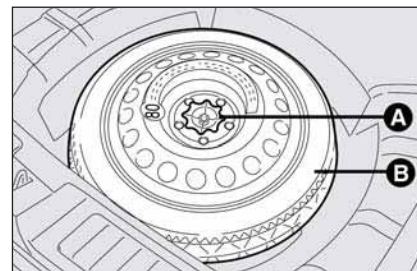
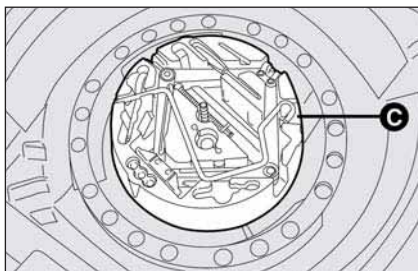

fig. 4
fig. 5
- ☐ Loosen the fastener **A**-**fig. 4**;
- ☐ take out the space-saver spare wheel **B-fig. 4** to access the tool container **C-fig. 5**;
- ☐ take out the tool container **C-fig. 5** and take it near to the wheel to be changed;